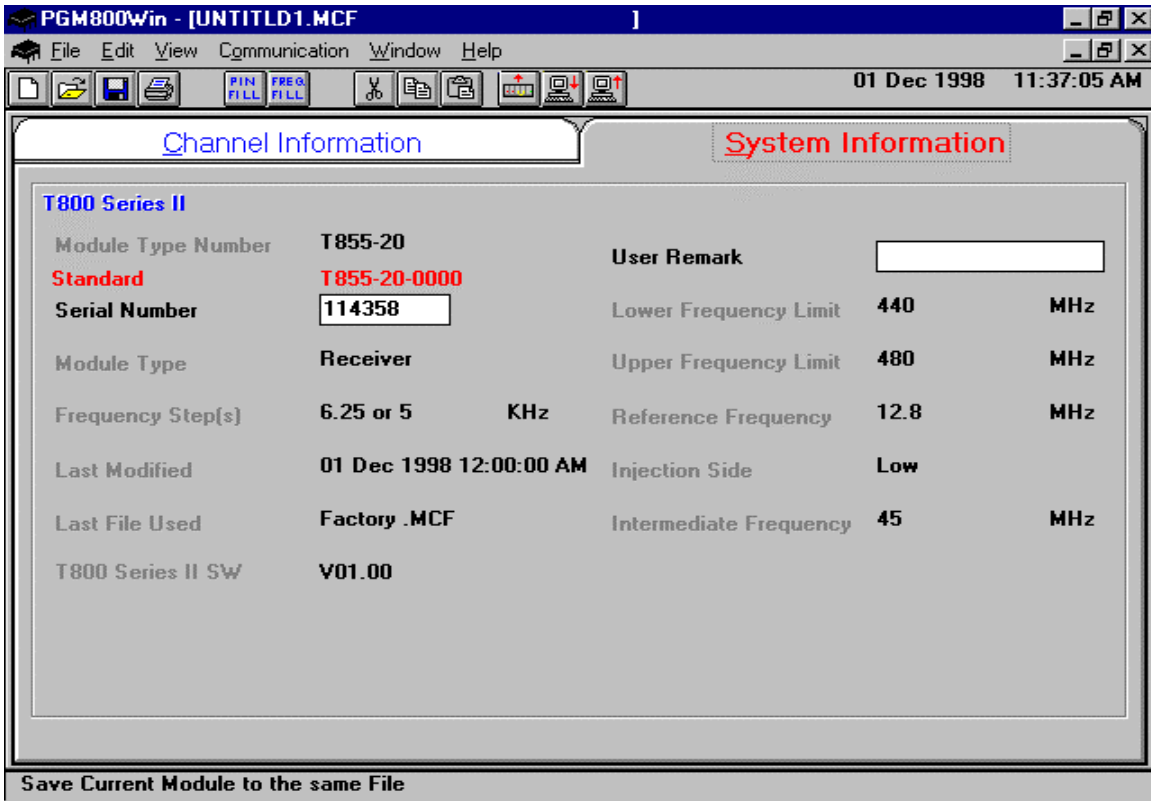
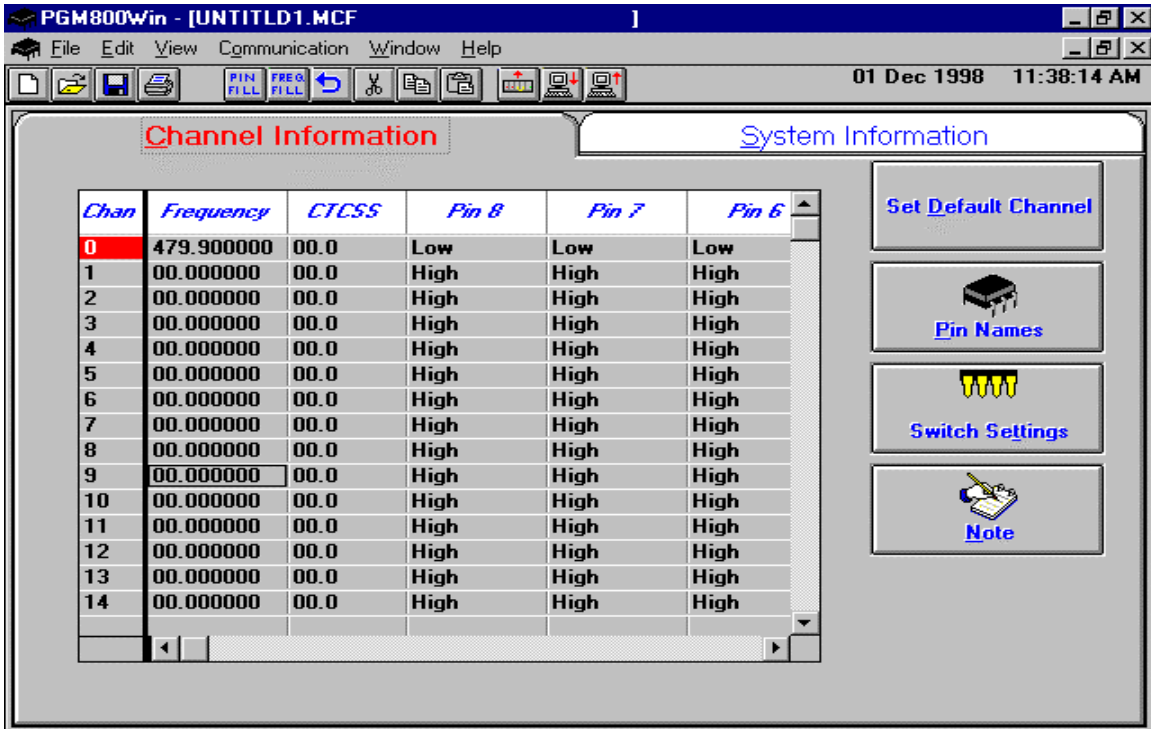
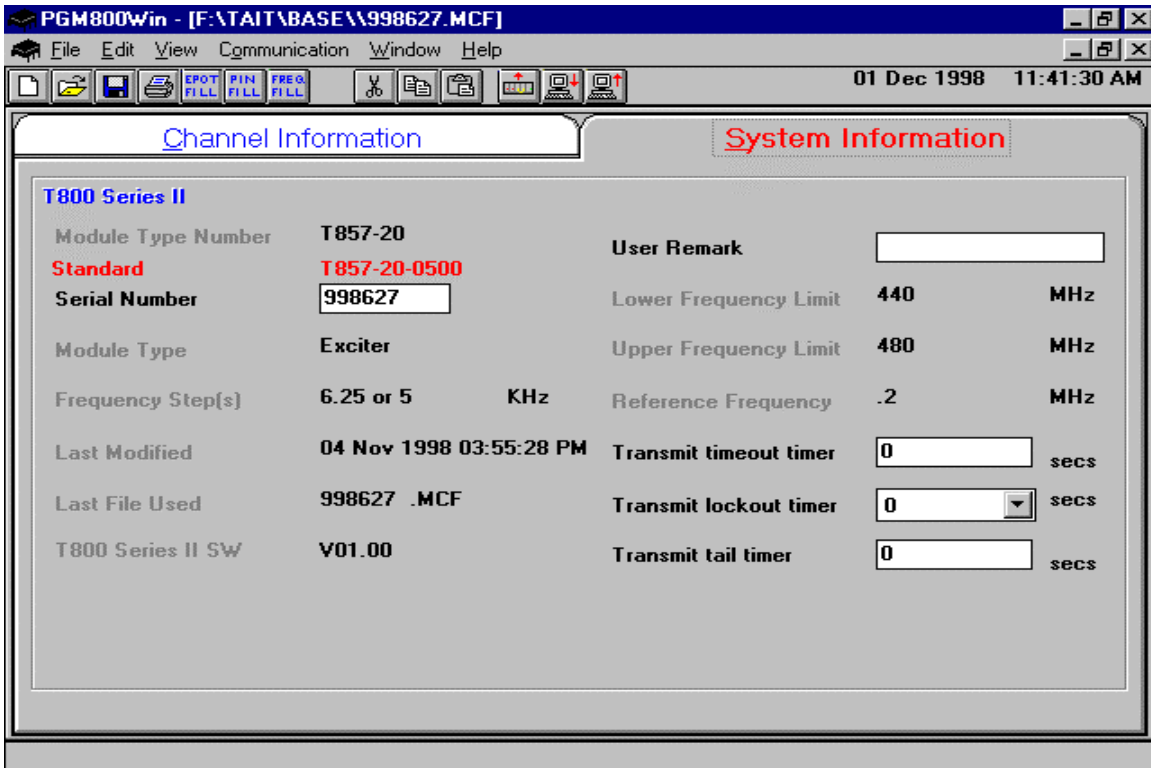
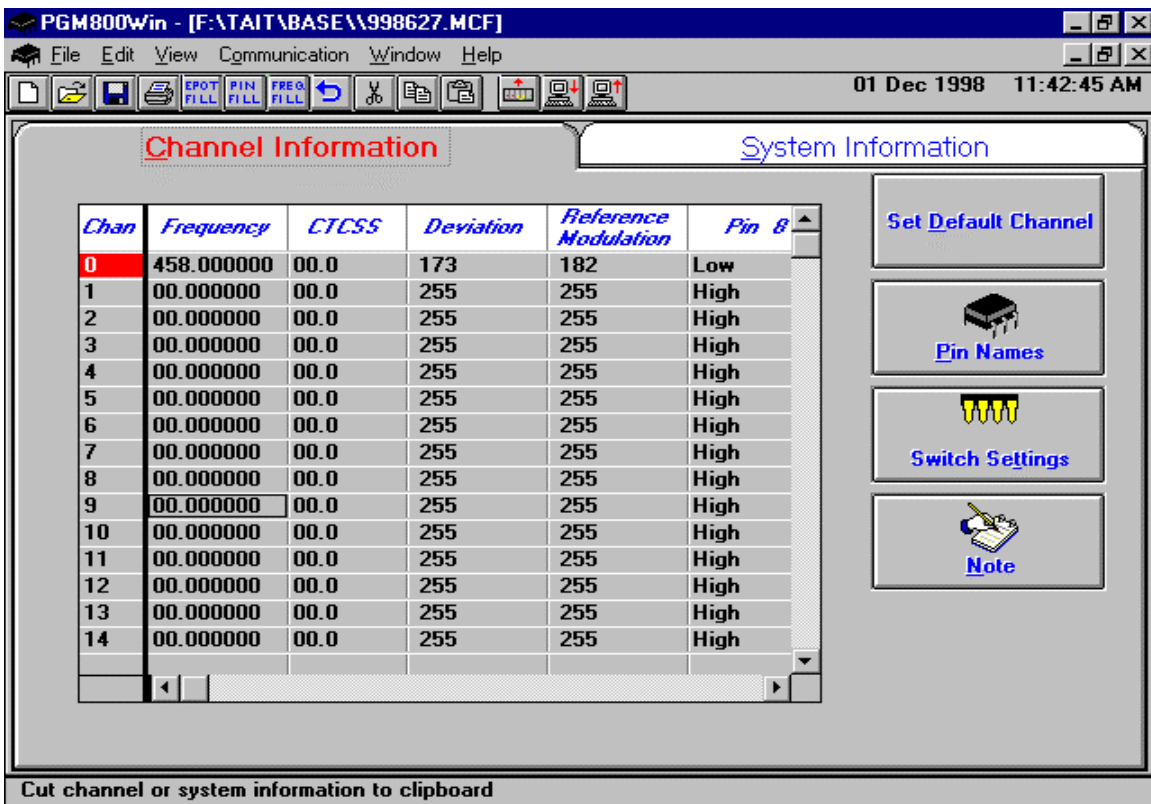

Figure 23 - Receiver System Information
Figure 24 - Receiver Channel Information screen
Figure 25 - Exciter System Information screen
Figure 26 - Exciter Channel Information screen
- Refer to Figure 23, Figure 24, Figure 25 and Figure 26 for screen program examples.